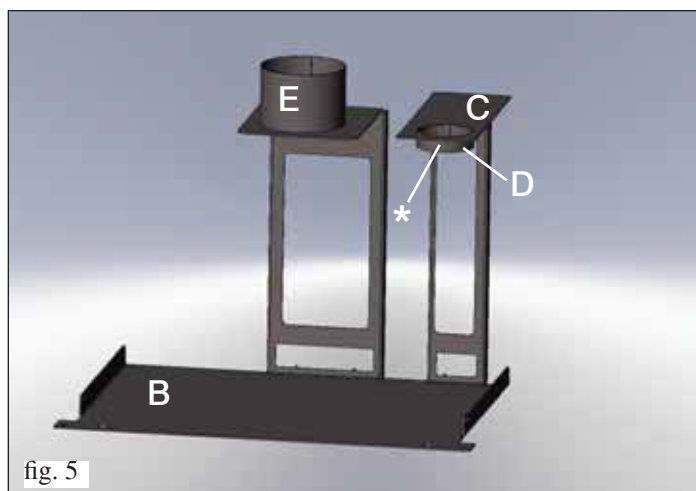

fig. 5
- Cut the tube to size and fit the end of the tube on the centring bracket (E fig. 3 to the side and fig. 5 on pg. 30) and fasten it using the clamps provided.
Assemble the facilitation kit as shown in figure 5.
- Fit the chimney flue on the collar of the bracket (**C**) placing it on the dedicated screws (*) (fig. 5).
- Fit the pellet loading tube on the collar of the bracket collar (**E** fig. 5 to the side and fig. 3 on pg. 28), securing it with the clamp supplied.